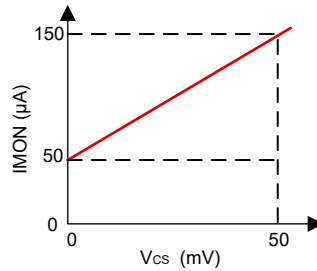
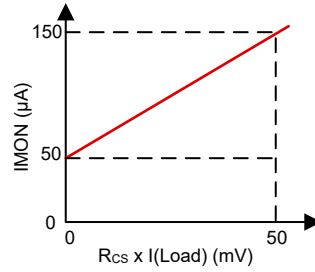

図 6-5. IMON Current Source vs Current Sense Voltage
Figure 6-6. IMON Current Source vs Boost Load Current
- the 50 μA is a DC offset current superimposed on to the IMON signals (refer to 図 6-5).
Obviously, the buck mode channel load current is the same as shown in Figure 6-5. However, the boost load current can be shown as in Figure 6-6.